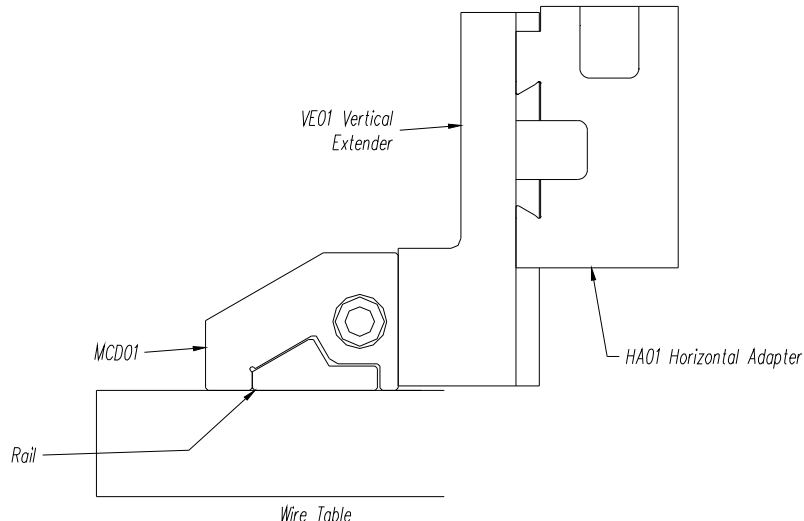

Figure 1
STEP 1. The MB01 multi block is designed as a multi axis base for the MRC01 multi round clamp. The MB01 is self-locking and can be attached to a VE01 vertical extender as shown in Fig. 1.